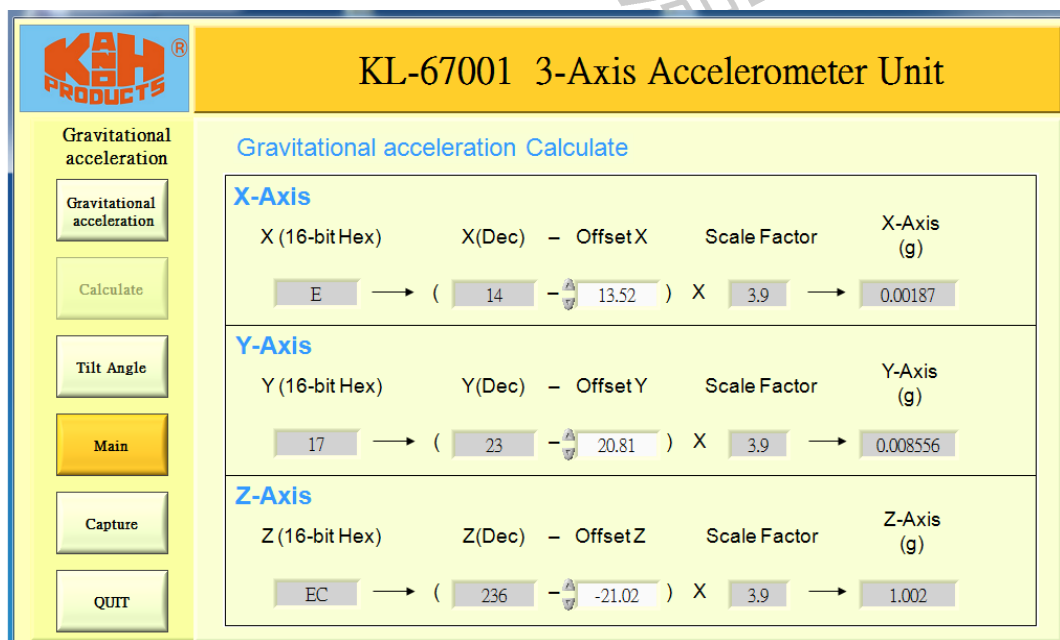

Fig. 6-6 Gravitational Acceleration Calculate window
4. Run KL-67001 program. At the Main screen, click "Gravitational acceleration" to open Gravitational Acceleration window. In the Gravitational Acceleration window, click "Calculate" to select the Gravitational Acceleration Calculation and Offset Calibration experiment. The Gravitational Acceleration Calculate window opens as shown in Fig. 6-6.